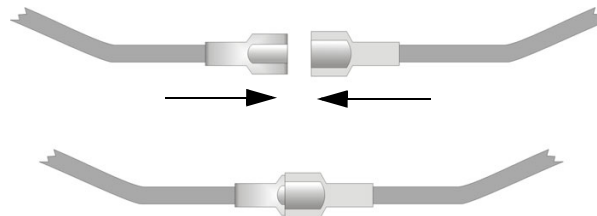

Figure 4-5 Splicing Control panel Battery Cable to RBB or AB-55 Battery Cable Extenders
2. Connect the main control panel battery cables to the battery cable extenders as shown in Figure 4-5.